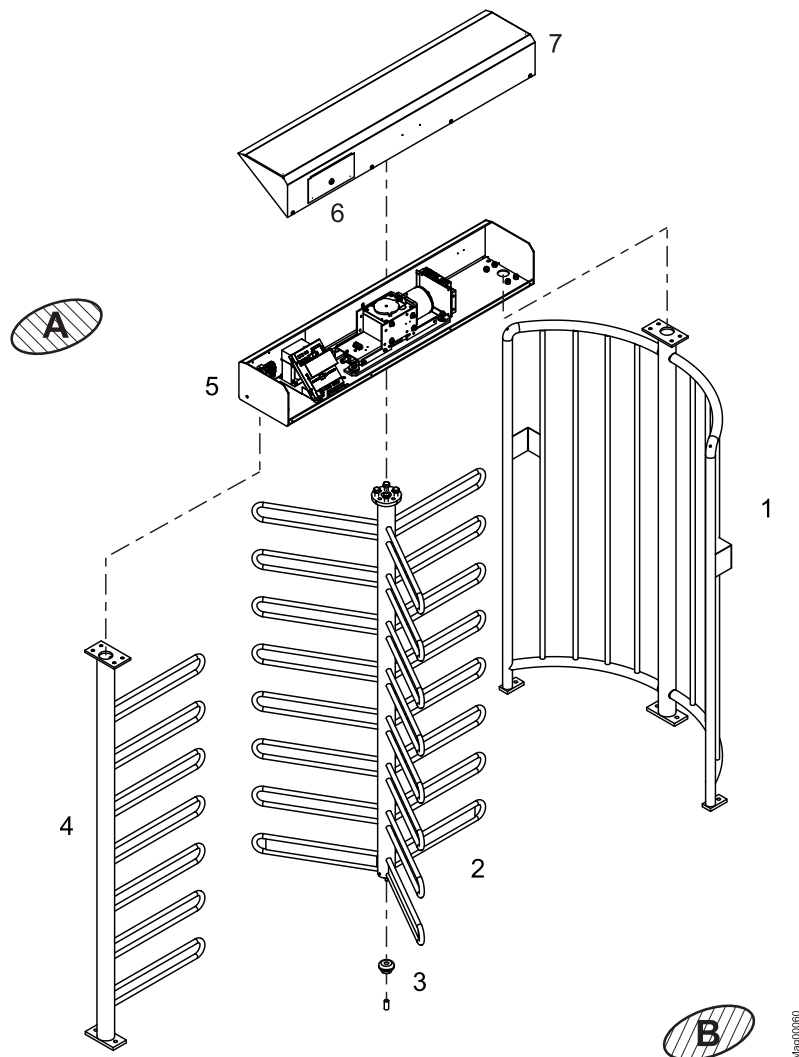

Fig. 9: Assemble full height turnstile
Before starting assembly, establish whether the cage half is to be right or left entry. See Fig. 9.
4. Pull the power cable and any control cables completely through the tube of the lock comb (Fig. 9, Pos. 1) and/or the cage half (Pos. 2).
6. Mount the cage half (Fig. 9, Pos. 2) and lock comb (Pos. 1) and fasten using the M 10 screws.
4. Position the support beam (Fig. 9, Pos. 3) using the hoist onto the lock comb and cage half.